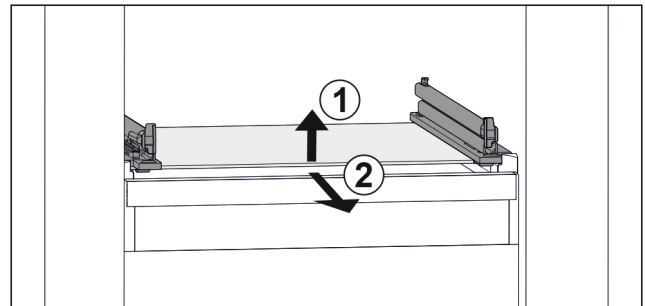

Fig. 162 Example illustration of glass shelf
- ▶ Lift glass shelf at the front. Fig. 162 (1)
- ▶ Remove glass shelf to the front. Fig. 162 (2)